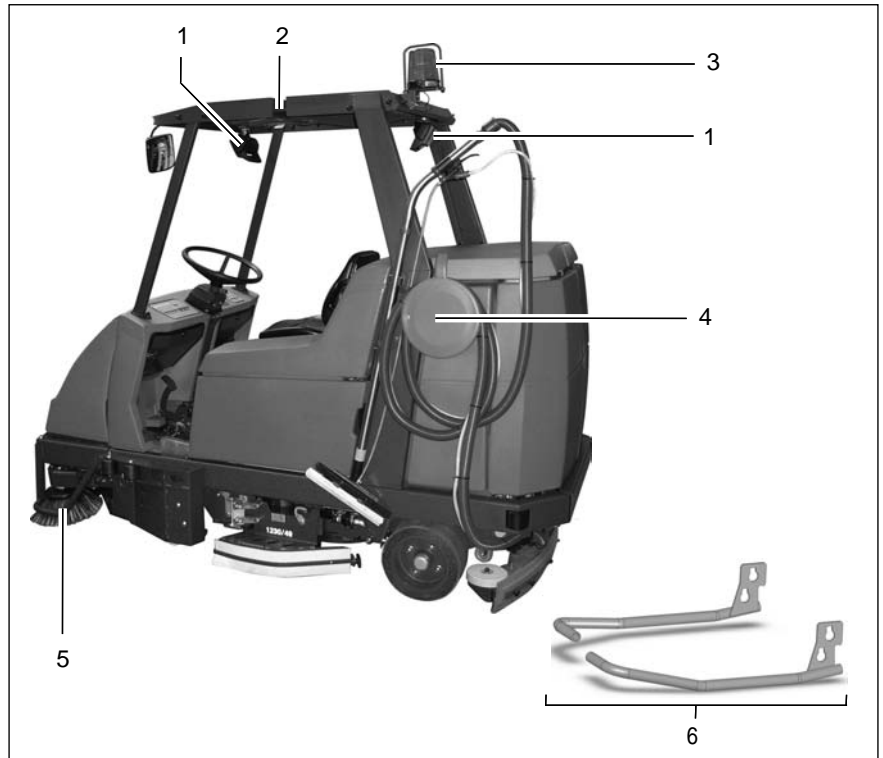

Fig. 18
**(Fig. 18/1)** (7584.02)
**(Fig. 18/2)** (7582)
**(Fig. 18/3)**
**(Fig. 18/4)**
- **Hand-held vacuum cleaner (Fig. 18/4)**
- **Side brush collision protection (Fig. 18/5)**
- **Side collision protection (Fig. 18/6)**